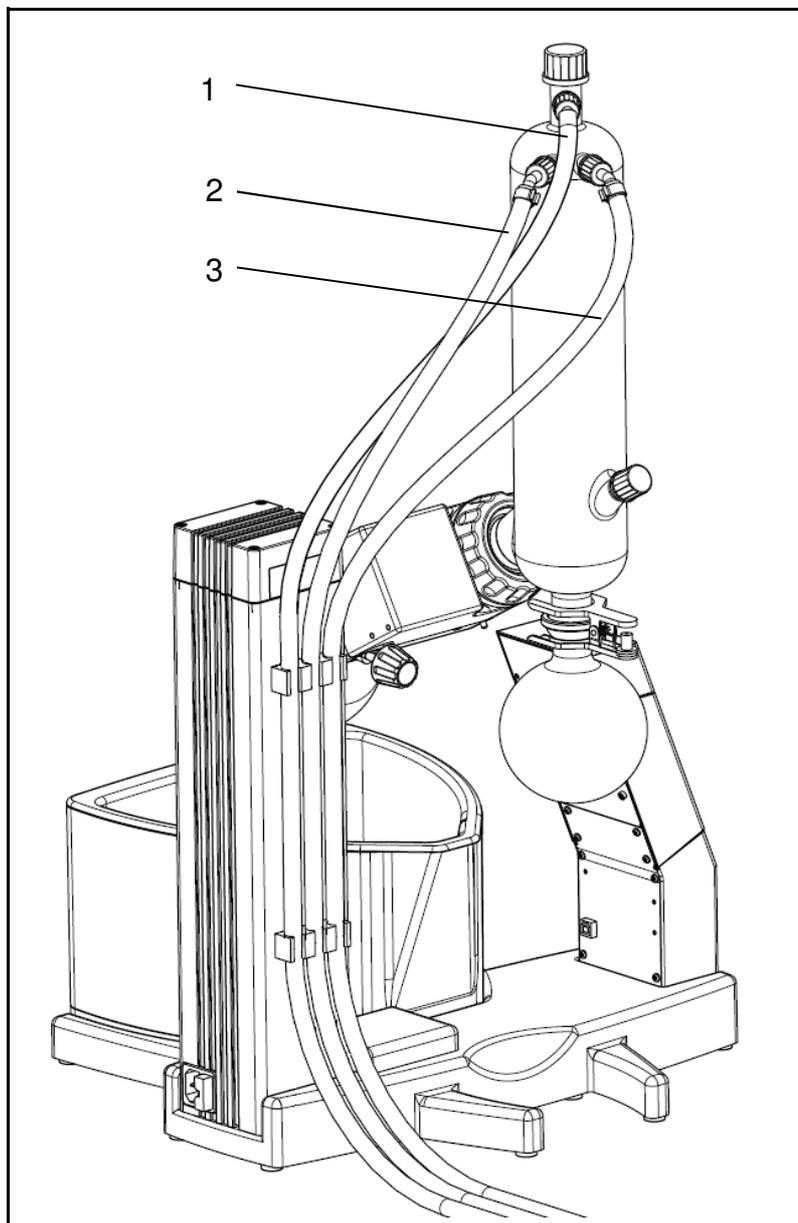

Fig. 5: Attaching lines for coolant and vacuum
4. Attach tubing (Fig. 5/2 and 3) or fill the cold trap with dry ice.